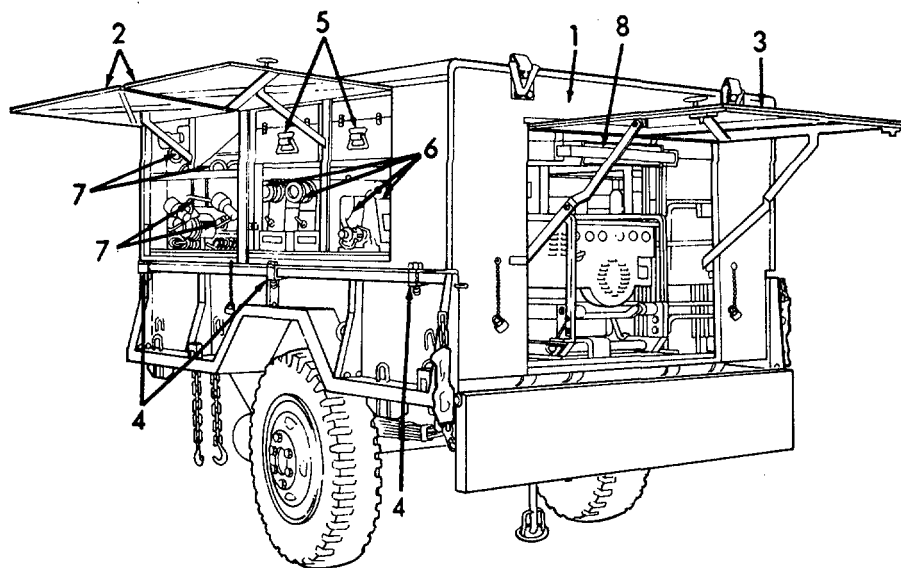
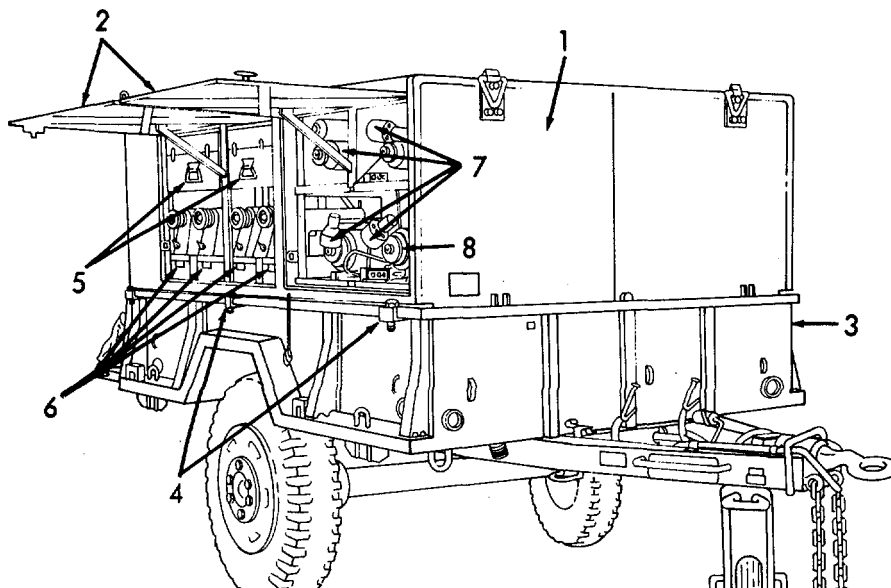

Figure 1-2. Curb Side.
Figure 1-3. Street Side.
a. *General Description.* The trailer-mounted clothing repair shop (figs. 1-2 through 1-5) is complete with all primary and support equipment required for the repair of clothing. The clothing repair shop is transportable and is designed for field use where it is normally set up in a tent or temporary shelters. The clothing repair shop consists of the following major components:
- (1) Cabinet assembly and its support equipment.
- (2) Six clothing sewing machines.
- (3) One darning sewing machine.
- (4) One button sewing machine.
- (5) One tack-button attaching machine.
- (6) One grommet press machine.
- (7) One fire extinguisher.
- (8) One GFE generator set (if required by mission).
(1) Cabinet Assembly. The weather-proofed aluminum cabinet assembly (1, fig. 1-2; 1, fig. 1-3) is designed to house and transport all of the equipment required for the operation of the clothing repair shop. It has two swing up doors (2, fig. 1-2; 2, fig. 1-3) on both the curb and street sides, and one swing up door in the rear (3, fig. 1-3) for easy access to the equipment in the cabinet. The cabinet assembly is mounted in the bed of a 1-1/2 ton utility cargo trailer (3, fig. 1-2) and is secured to the trailer bed frame by holddown clamp assemblies (4, fig. 1-2; 4, fig. 1-3). The cabinet assembly contains the following:
(a) Four compartments (two on the curb side and two on the street side) for the storage boxes (5, fig. 1-2 and 5, fig. 1-3), which are used for storing the grommet press, tack button attaching machine, hardware, accessories and attachments necessary for operation of the clothing repair shop.
(b) Eight wooden tray assemblies for stowing the sewing machine heads (6, fig. 1-2 and 6, fig. 1-3).
(c) Eight compartments with slides for the machine table assemblies (7, fig. 1-2 and 7, fig. 1-3).
(e) One compartment (rear) with slides for the two table assemblies (8, fig. 1-3).